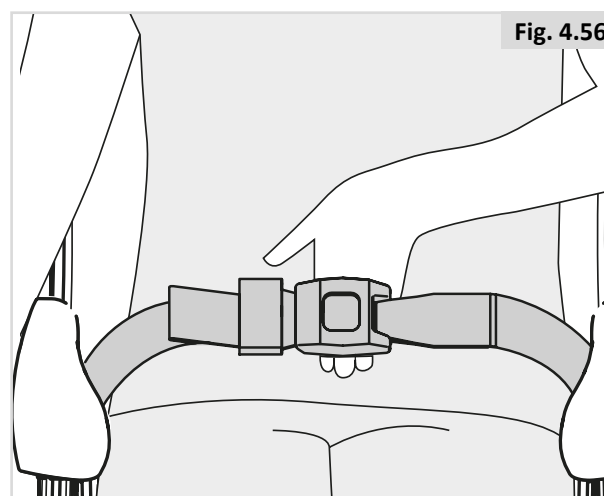

Fig. 4.56
- Adjust the lap strap to suit, leaving no more than a hand's width gap for comfort and safety (Fig 4.56).